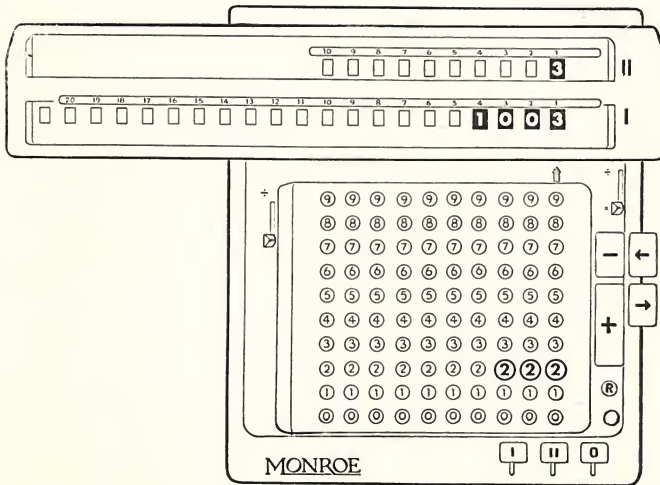
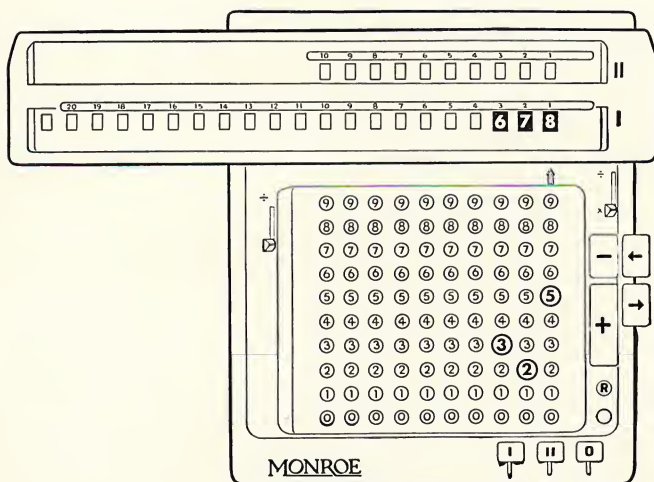

Figure 2
Figure 3
Step 3—Change keyboard set-up to 222. Depress the plus bar once and the final result, 1003, appears in the lower dials as shown in Figure 2. As the upper dials of the MA-7-W act as an item counter, the figure 3 indicates that there have been that number of items added in this example.
Step 2—Change keyboard set-up to 325. Depress minus bar. The lower dials now show the remainder and final answer, 678, as in Figure 3.